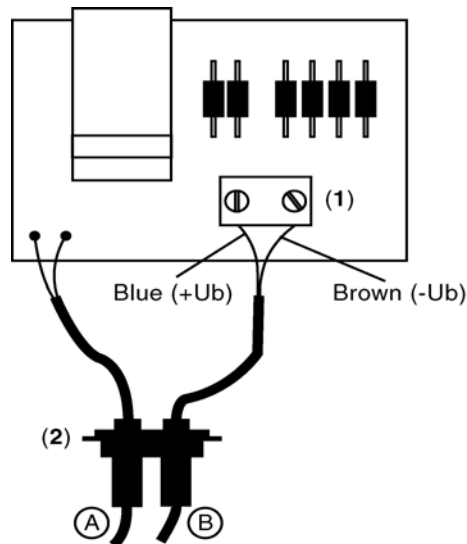

Fig. 2.51 Connecting the battery cable to desktop power adapter LT25W
4. Connect the supplied cable to the terminal (1) as shown in Fig. 2.51
5. Replace the cable feed-through (2) (Fig. 2.51) for a cable with the one supplied for two cables